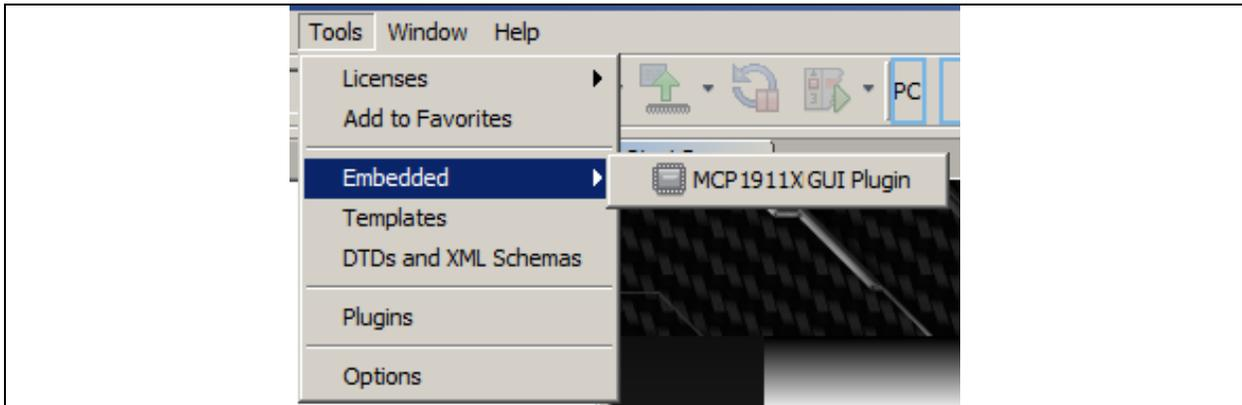

FIGURE 2-10: *Displaying the Plug-In.*
- 2:** If the plug-in is not visible in MPLAB X IDE, it can be displayed using the MPLAB X IDE menu, as shown in Figure 2-10.